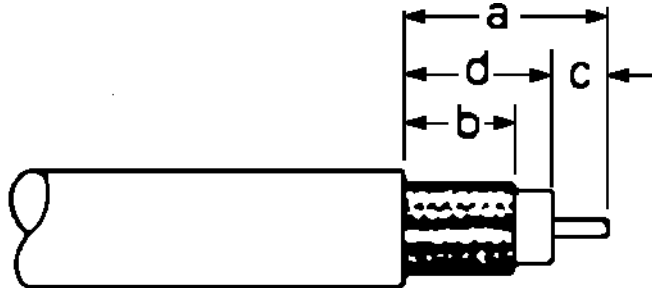
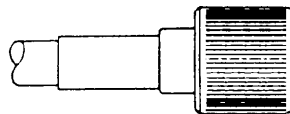

Figure 12: Stripping the coax cable jacket
Figure 14: Completed TNC connector
After the antenna has been mounted and the cable has been cut to length—not less than 20 feet—install the supplied TNC connector at the other (961X) end. See Figure 12, Figure 13, and Figure 14 below. A satisfactory crimp for this connector may be made with a commonly available, high-quality crimping tool designed for use with TNC connectors.
1. Strip cable jacket to the following dimensions (in inches), as illustrated in Figure 12: 'Stripping the coax cable jacket,' below: $a=0.57$, $b=0.34$, $c=0.14$, $d=0.43$. Do not nick the center conductor.
4. "Figure 14: Completed TNC connector" below: Install cable assembly into body assembly so inner ferrule slides over dielectric and under braid. Push cable assembly forward until contact seats in insulator. Slide outer ferrule over braid and up against connector body. Crimp outer ferrule using Cavity A of tools specified above. The connector ferrule-to-cable junction can be sealed and protected using adhesive-lined heat shrink.